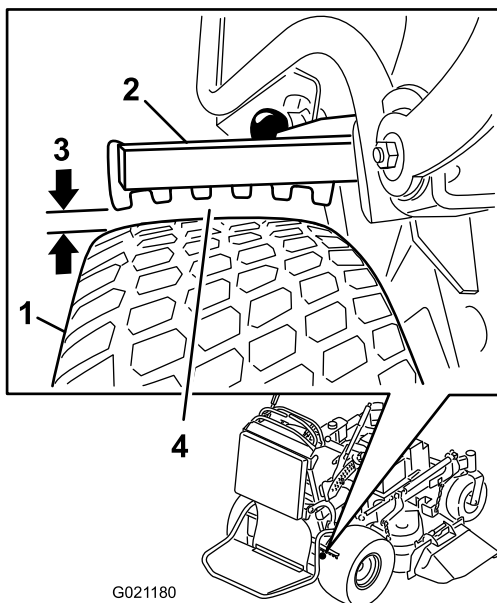

Figure 60
6. Using the side with the smallest clearance, ensure that the distance is between 3 and 6 mm (1/8 and 1/4 inches) (Figure 60). Refer to Adjusting the Brakes \(page 41\) when adjustment is needed.
5. Adjust the yoke. The distance between the brake bar and the tire needs be between 3 and 6 mm (1/8 and 1/4 inches). To tighten the brake, rotate the yoke up. To loosen the brake, rotate the yoke down (Figure 60).